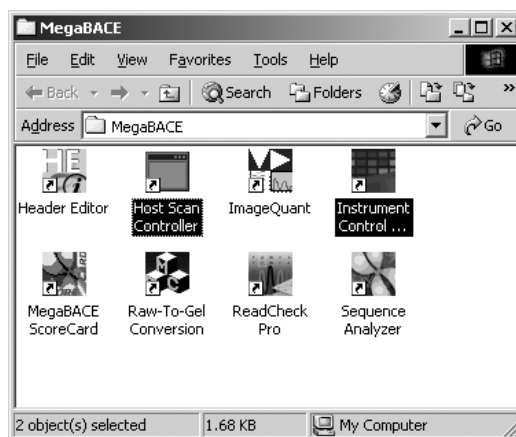

Figure 3-2. The MegaBACE shortcut folder on the Windows desktop.
4. Start the Host Scan Controller software. To do this, double-click the **Host Scan Controller** shortcut icon in the **MegaBACE** folder on the Windows desktop (figure 3-2). Alternatively, you can start the Host Scan Controller using the Start menu on the Windows desktop.
6. Start the Instrument Control Manager. To do this, double-click the **Instrument Control Manager** shortcut icon in the **MegaBACE** folder on the Windows desktop (figure 3-2). Alternatively, you can start the Instrument Control Manager using the Start menu.